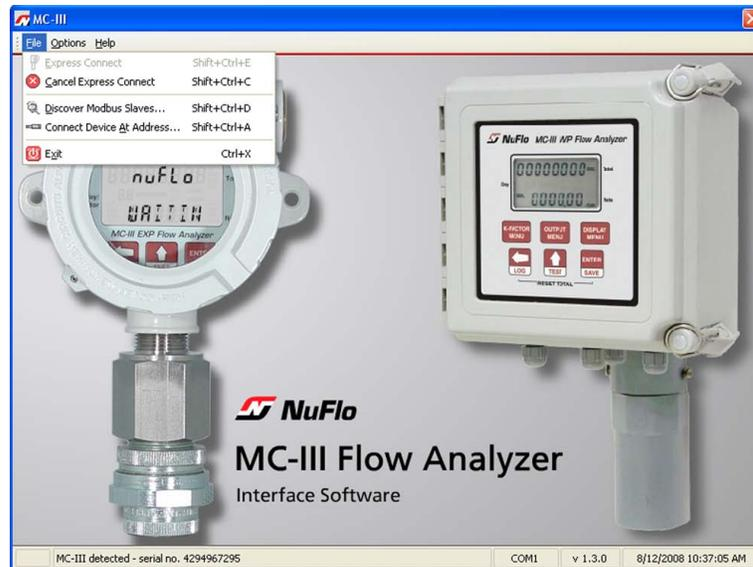

Figure 4.6—Cancel Express Connect option
To temporarily cancel the “express connect” function without exiting the software program, click in the LCD area of the device on the Welcome screen or choose File>Cancel Express Connect from the menu bar (Figure 4.6, page 49). The software will stop all attempts to connect to the device. The “express connect” function will be restored when the user exits the program and attempts to re-open the software.
1. From the Welcome screen, choose File>Cancel Express Connect (*Figure 4.6, page 49*).